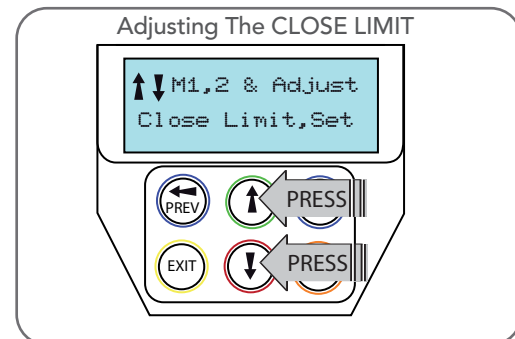

Fig 8.4
- Drive the motor using the UP and DOWN arrows on the console keypad (**Fig. 8.4**).